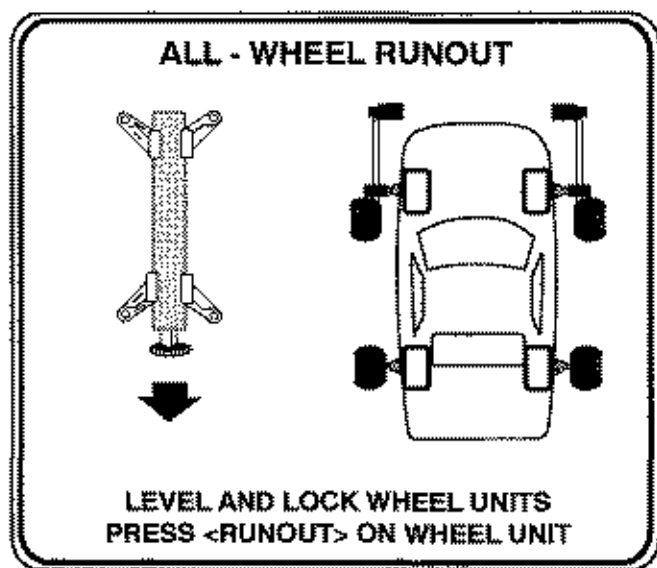

Figure 2-41
3. The screen shown in Figure 2-41 appears.